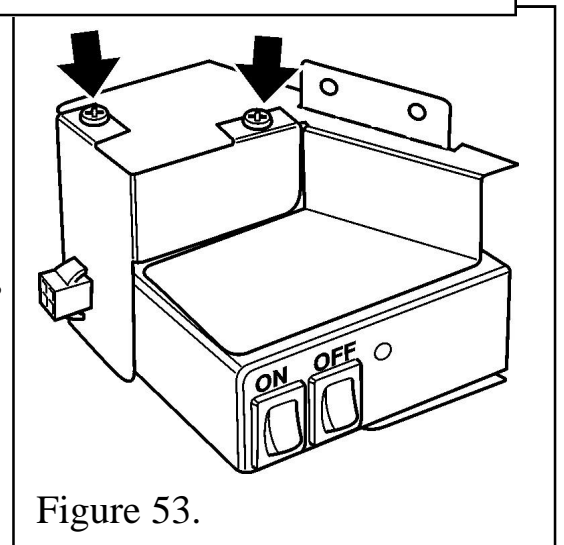

Figure 53.
5. Unscrew the two screws on top of the control box housing (See figure 53)